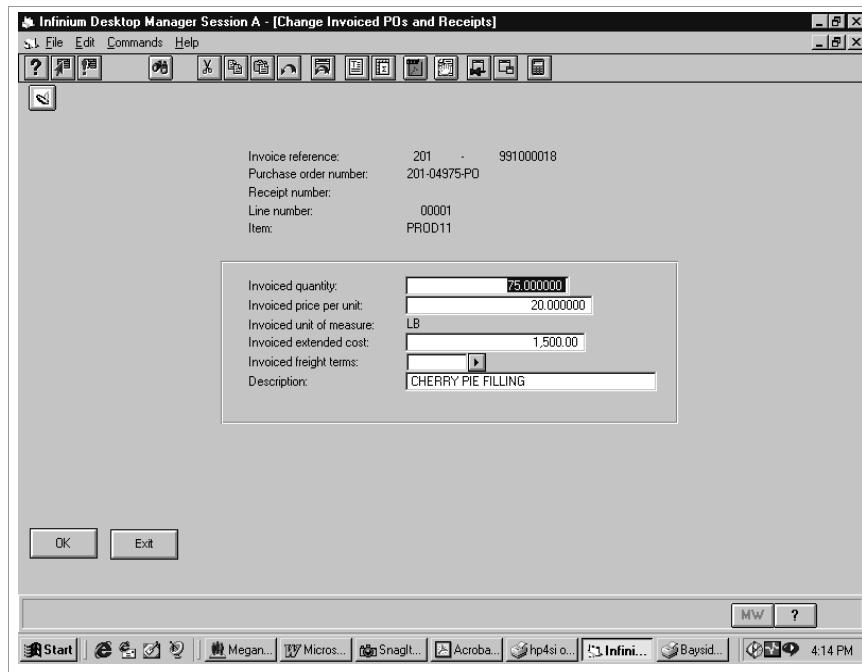

Figure 6-4: Change Invoiced POs and Receipts screen
- 2 Select **Change** or type **2** and press Enter. The system displays the screen shown in Figure 6-4.